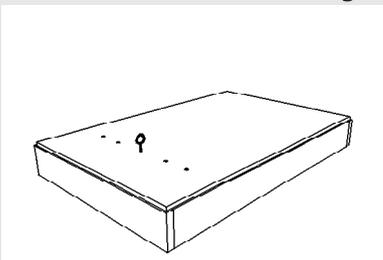

fig 7
5. Fit the screw eye which is taped to the operating rod to the lid 100mm in from the opening end, midway across the width (figure 7).